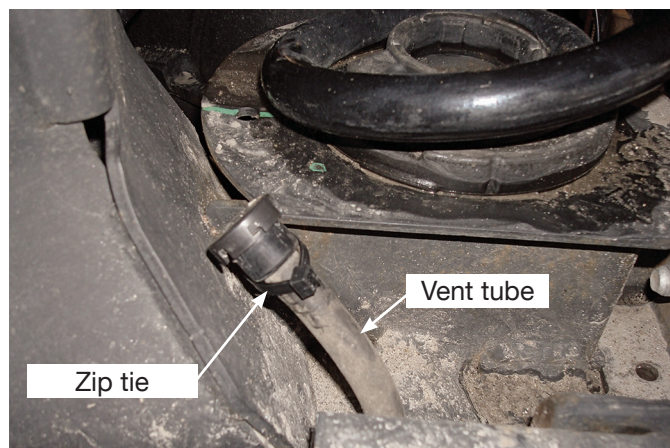

Fig. 4
3. Insert the zip tie into the small hole in the lower coil spring seat, then around the vent tube and just snug the zip tie enough to angle the tube out of the way (Fig. 4).